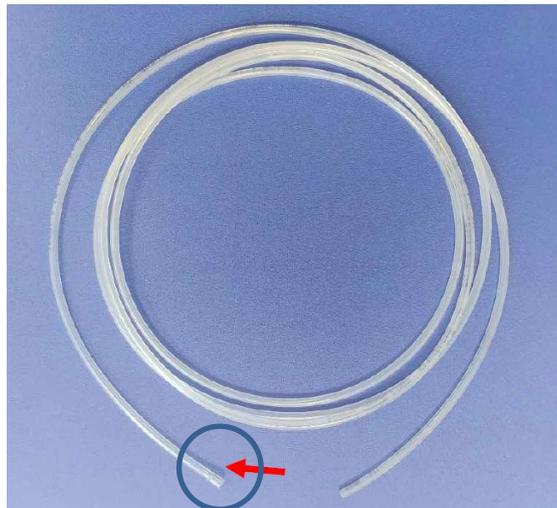

Figure 98: Needle wash inlet line from reservoir to wash pump, the arrow shows the pre-widened end to be applied to the wash pump inlet
2. Replace the needle wash inlet line from wash pump inlet to the needle wash reservoir in the solvent rack by *needle wash line NP long, pre widened* from the kit (Figure 98). The pre-widened end (red arrow) is to be used at the side of the wash pump inlet.